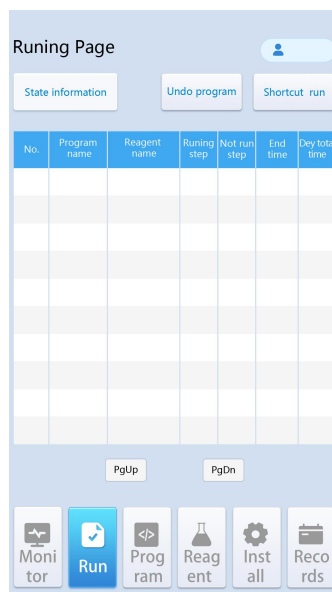

Figure 8 Operation interface
- 2.1 First, select the running program line you want to cancel in Figure 8. At this time, the selected line will turn gray, and then click the "Cancel Selection" button. The prompt message "Confirm to cancel" will appear on the top of the device. Click the "Cancel Selection" button again. The system will prompt "Information on completion of cancellation", and the program name column will display waiting for cancellation. The machine will automatically take out the sample that has executed the cancellation function from the current reagent tank and put it into the outlet tank. At this time, the cancellation is completed.
3. Quick run: The system provides a way to run the dyeing program quickly by manually specifying the dyeing starting point. Click the Quick Run button to enter the Quick Run interface, as shown in Figure 8. Its functions are described as follows: